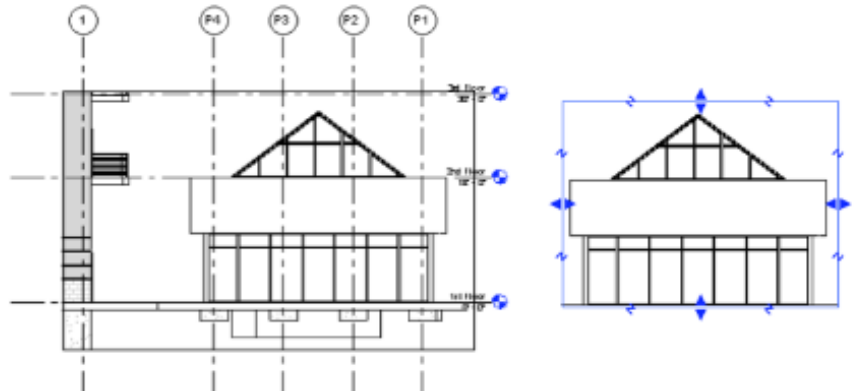

Figure 13–18
- Modify crop regions and hide unnecessary elements in the views, as shown in Figure 13–18. Turn off crop regions after you have modified them.